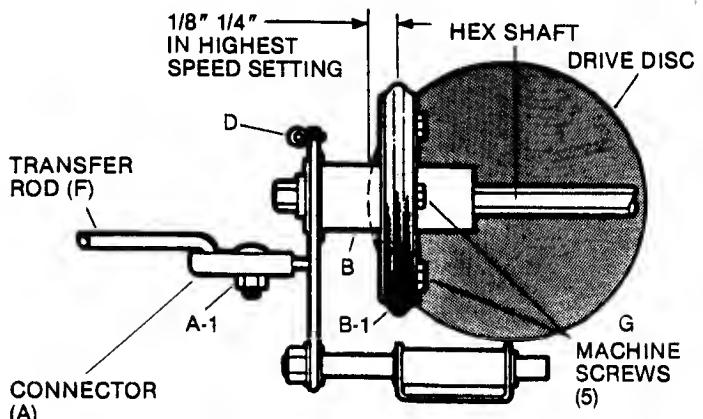

FIG. 13 -DRIVEN DISC COMPONENTS
**DRIVEN DISC ADJUSTMENT:** Stop the engine and shift the GROUND SPEED CONTROL (12) into the highest setting. The CENTER of driven disc should be  $1/8"$  to  $1/4"$  from the EDGE of the drive disc as shown in FIG.13. To re-adjust, loosen connector hex nut (A-1) and slide the driven disc in or out as required. Re-tighten connector hex nut to secure the driven disc in the proper position.